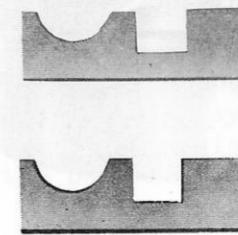

Fig. 9-71
(2) Mounting the flyweight on the flyweight holder. Apply grease to the bend portion of the flyweight.
(3) Mounting the injection timing control on the injection pump. Insert the injection timing control spring into the spring seat of the holder pin, and also insert the spring supporter (EFEP131C/6) (Fig. 9-71) under the spring so that the inserted spring may not roll or become flat.